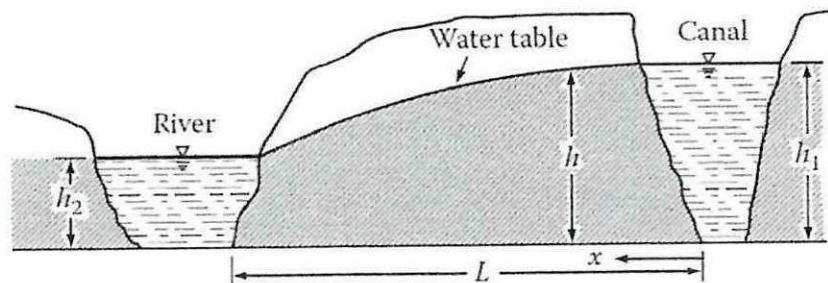

Figure Q3.1: Open channel cross-section
- (c) A river and a canal run parallel to each other with a separation distance, $L = 400$ m as shown in **Figure Q3.1** comes in an unconfined aquifer with a hydraulic conductivity of 0.45 m/day. The water surface elevation in the river is 1.25 m lower than in the canal where the depth is 5 m.